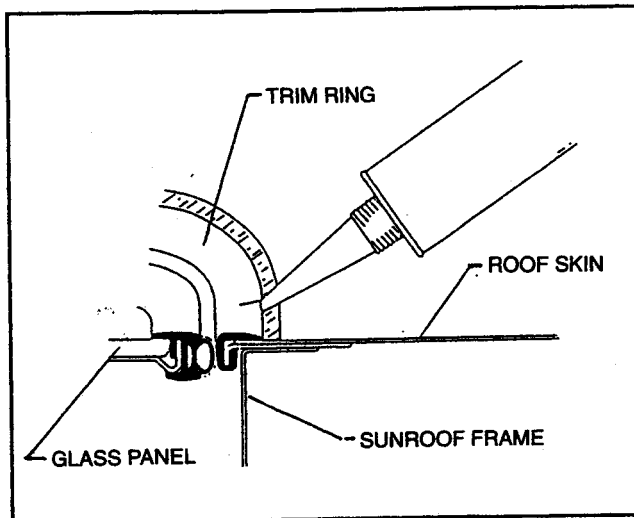

Fig. 17 - Inserting Adhesive Under Trim Ring.
10. Inject a first class polyurethane adhesive under the trim ring in a good and even quantity (Fig. 17).